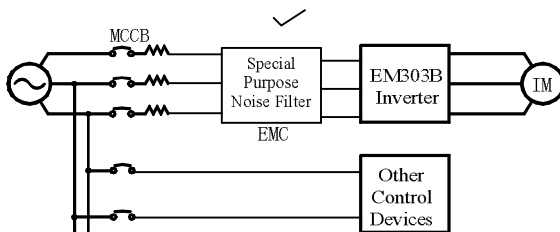
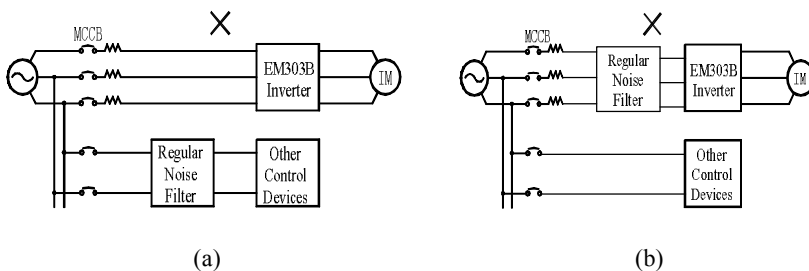

Figure 3-6 Correct Noise Filter Installation
Figure 3-7 Incorrect Noise Filter Installation
- Correct vs incorrect installations of noise filters as shown in Figure 3-6 and Figure 3-7.